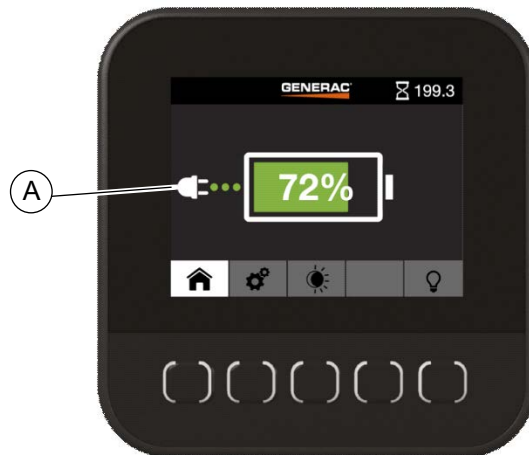

Figure 3-10. Charging Unit
3. See Figure 3-10. If the charging current is more than the discharging current, the display shows the battery getting charged (A).